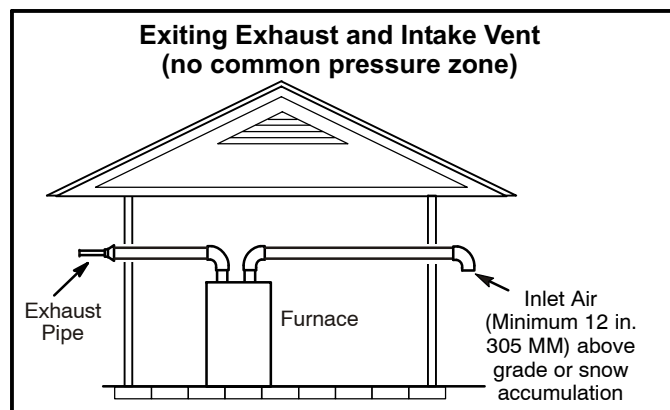
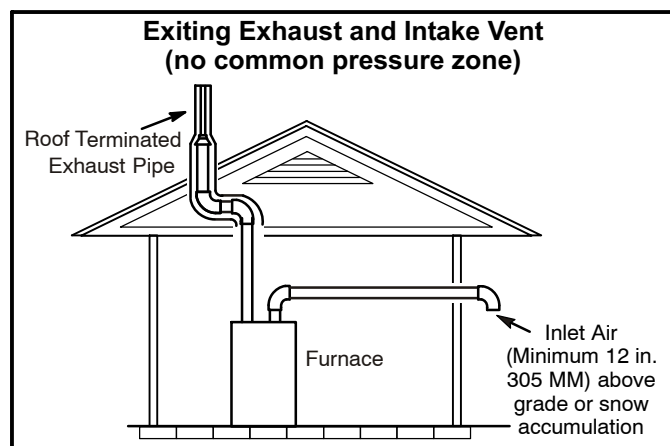

FIGURE 38
FIGURE 39
1. Intake and exhaust terminations are not required to be in the same pressure zone. You may exit the intake on one side of the structure and the exhaust on another side (figure 38). You may exit the exhaust out the roof and the intake out the side of the structure (figure 39).